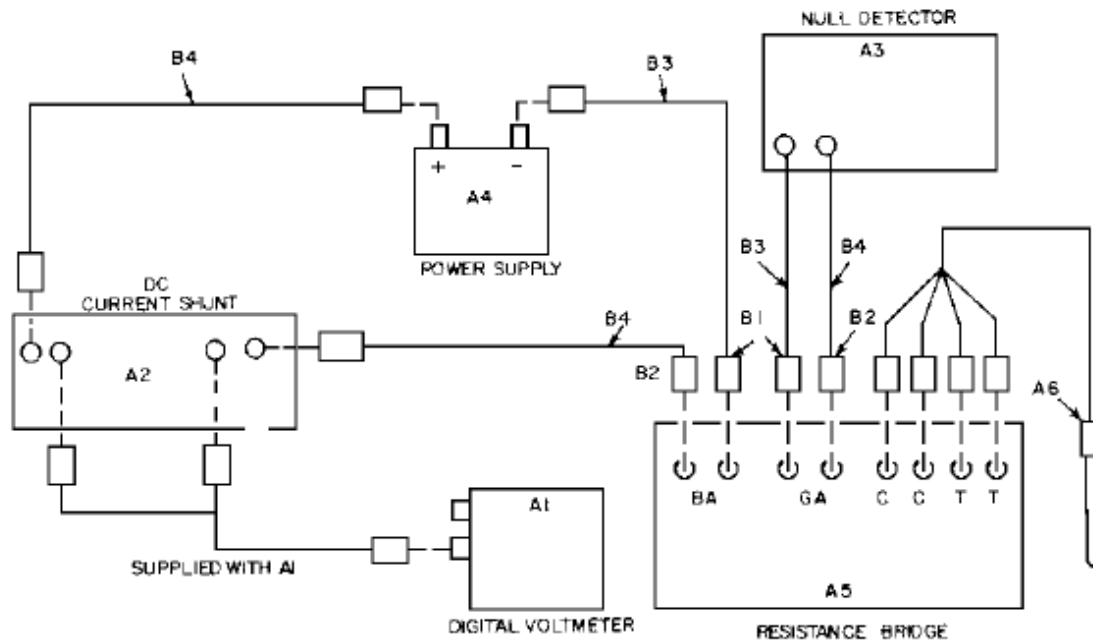

Figure 23. Temperature Accuracy-equipment setup.
- (a) Connect equipment as shown in figure 23.